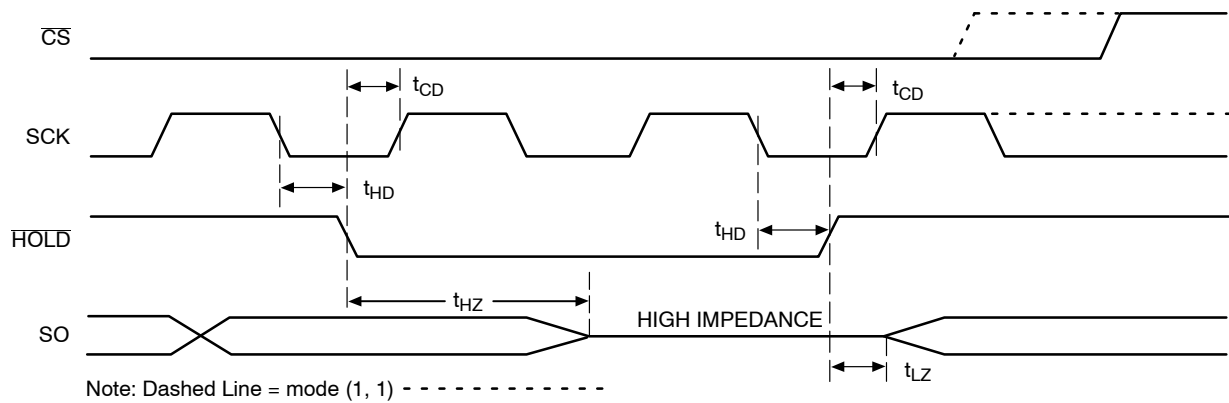

Figure 11.  $\overline{\text{HOLD}}$  Timing
The  $\overline{\text{HOLD}}$  input can be used to pause communication between host and CAT25M01. To pause,  $\overline{\text{HOLD}}$  must be taken low while SCK is low (Figure 11). During the hold condition the device must remain selected ( $\overline{\text{CS}}$  low). During the pause, the data output pin (SO) is tri-stated (high impedance) and SI transitions are ignored. To resume communication,  $\overline{\text{HOLD}}$  must be taken high while SCK is low.